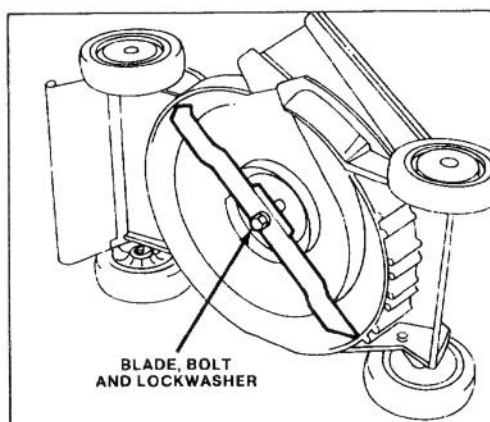

Figure 14
3. Tip mower on its left side (Fig. 14).
5. REMOVING BLADE — Grasp end of blade using as rag or thickly padded glove. Remove blade bolt, lockwasher and blade (Fig. 14).